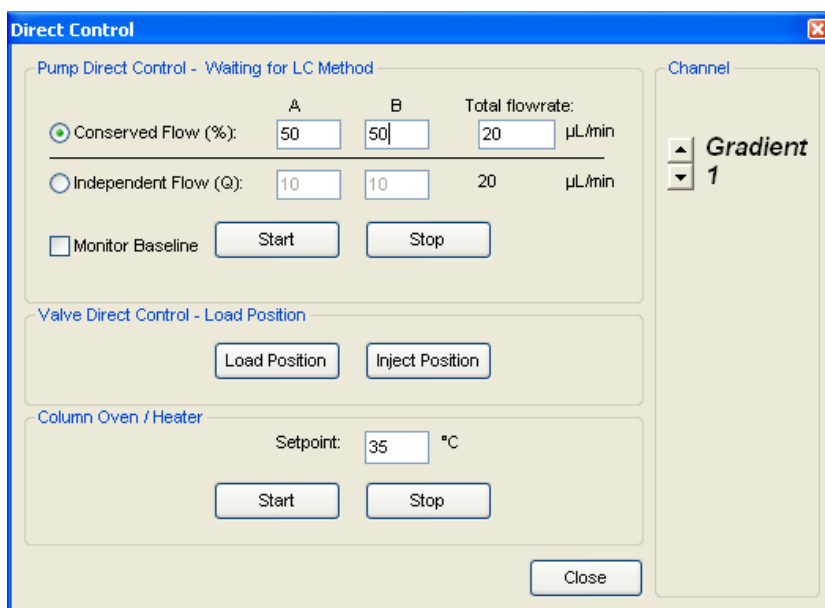

Figure 3-14 Direct Control Dialog—Flushing Gradient 1 Autosampler Connection
9. Open the **Direct Control** dialog (Figure 3-14) by clicking **System > Direct Control** from the Eksigent control software's **Acquisition** window.